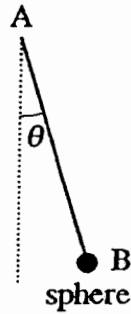

Fig. 2
- 2 A pendulum consists of a light rod, AB, of length 0.8 m with a small brass sphere of mass 0.5 kg attached at the end B. The end A is freely pivoted so that the pendulum can move in a vertical plane. Initially the pendulum is held slightly displaced from the vertical and released from rest. The angle the pendulum makes with the vertical after  $t$  seconds is denoted by  $\theta$  radians, as shown in Fig. 2.